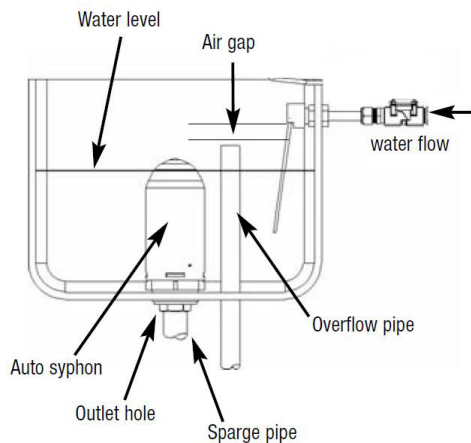

Fig. 1 Cistern with autosyphon
- Cistern - ensure flush triggering level of autosyphon is below water inlet (Fig. 1).
- an air gap must be present between the cistern water level and the water inlet pipe to prevent back-flow (Fig. 1).